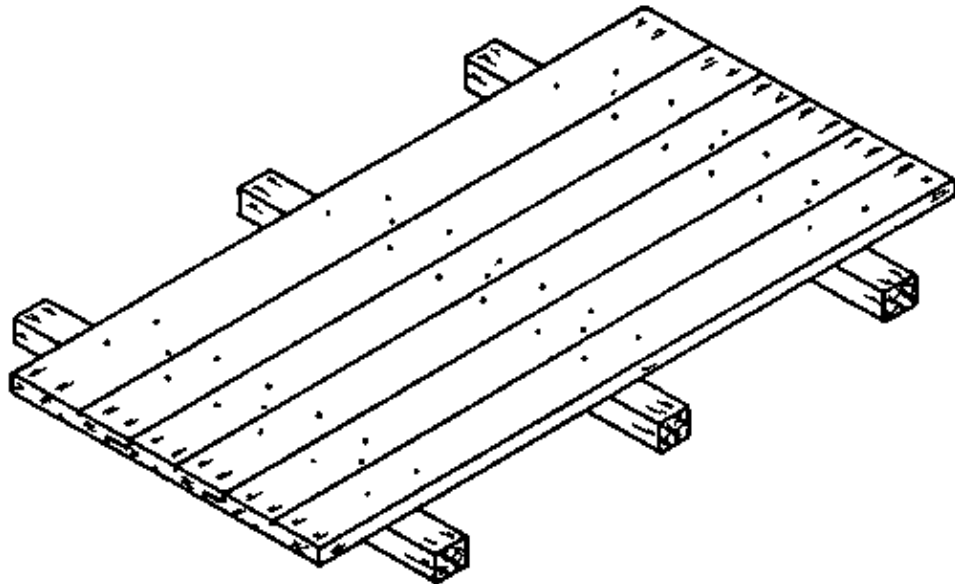

Fig. 4
m. Turn the door over put three pieces of wood under the ledges for support during nailing (Fig. 4, previous page).
– REMEMBER: To avoid splitting the wood, always blunt the nails and drive them in a staggered pattern (Fig. 4, previous page). Clench all the nails to prevent them from being pulled out if the wood warps or swells. For clenching, the nails have to be long enough to go through the wood and out the other side by about 5 mm (Basic Knowledge, pages 92 to 94).